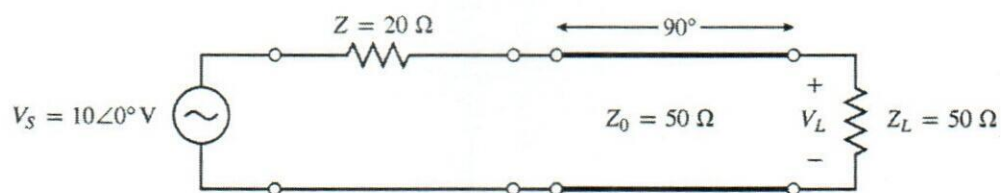

Figure 1
- iii) The two port network shown in Figure 1 consists of a series impedance [06]